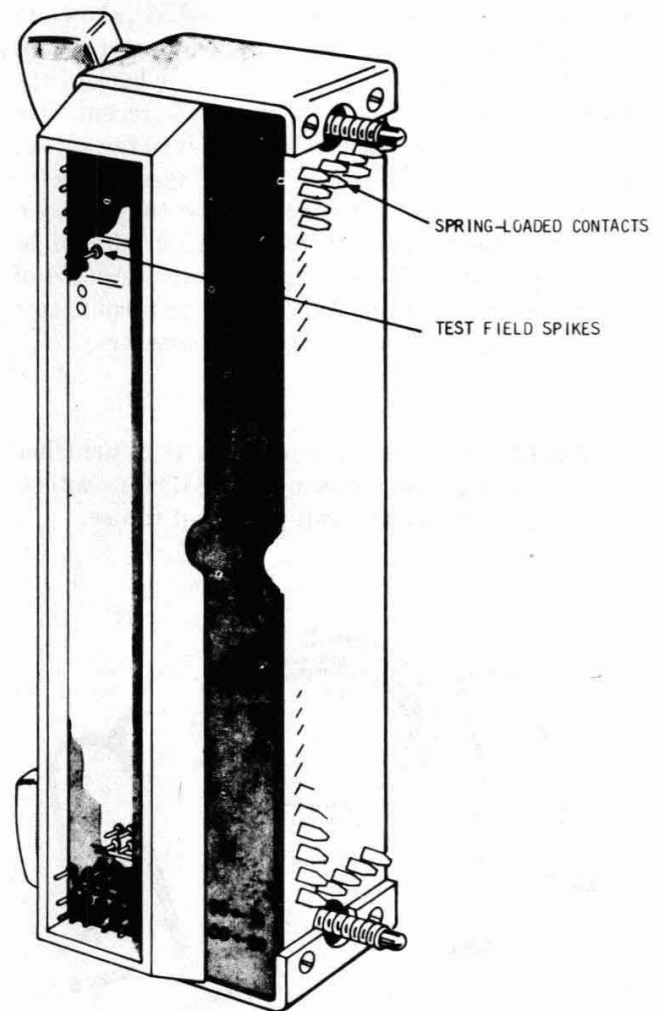

Fig. 7—N Test Connector
2.05 The *N* test connector (AT-8882), shown in Fig. 7, consists of a four-piece, plastic-molded body in which 200 spring-loaded contacts are housed and connected internally to 200 exposed test field spikes which are located on the side of the connector. The spikes permit the attachment of test cords to equipment and provide a means of checking one cable pair at a time. The N test connector mounts on the 305-type connector and positions the test field points to face the craft person.